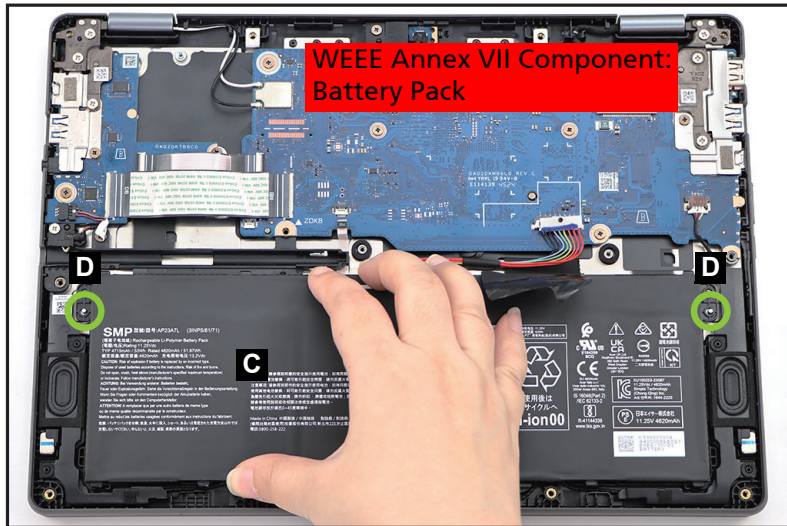

Figure 1-8. Battery Pack Removal
3. Lift to release the battery pack (C) from the guide pins (D) (Figure 1-8). Then remove the battery pack from the top assembly.